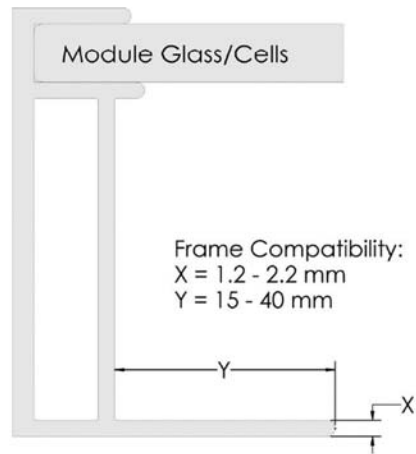

Figure 2: CAMO Clamp Module Frame Dimensional Requirements
2. CAMO clamps will function within a module’s design load ratings. Be sure the specific module being used with the CAMO clamp meets the dimensional requirements shown in Figure 2 on the following page, is a module listed in IronRidge’s installation manual, and that the module selected is suitable for the environmental conditions of a particular project.